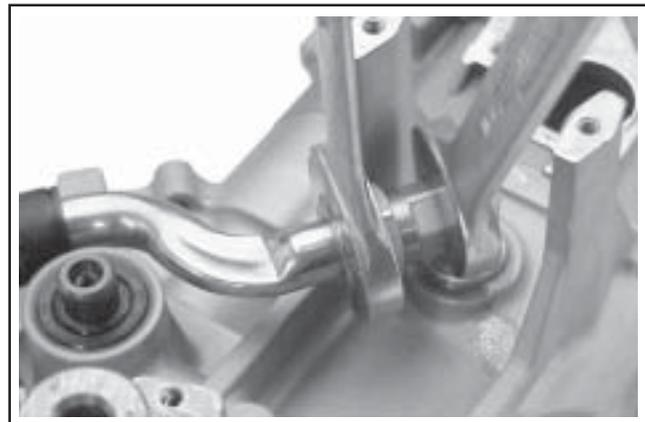

Figure 9-47. Loosening Hex Cap Section of Fitting.
- Loosen and unscrew the hex cap section securing the transfer tube to the 90° fitting in the crankcase. See Figure 9-47. Support the fitting with a wrench, when loosening the hex cap section.